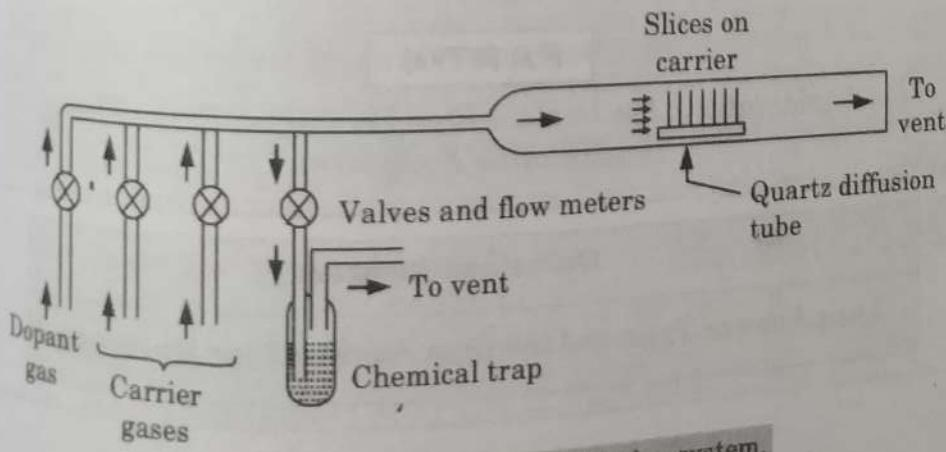

Fig. 4.11.1. Gaseous-source diffusion system.
3. Fig. 4.11.1 shows the schematic for a typical diffusion system using a gaseous dopant source.